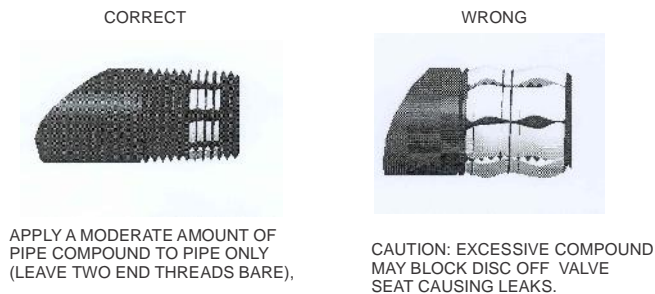

Figure 1: Use a Moderate Amount of Pipe Compound
5. For any threaded connections, threads of pipe and nipples must be smooth and free of tears and burrs. Steam clean all piping inside diameter to remove foreign substances such as cutting oil or thread chips before installing into the valve. Apply a moderate amount of good quality pipe compound (do not use Teflon tape) to pipe only, leaving two end threads bare (see Figure 1). On LP installations, use compound resistant to LP gas.